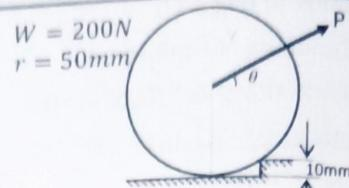

Fig 2.26
- 3) A smooth roller with 50mm radius and 200N weight is to be pulled over a 10mm high step as shown in fig 2.26. Find minimum possible value of P and corresponding value of ' θ '. (Ans: $\theta=36.87^\circ$; $P_{min}=120\text{N}$).